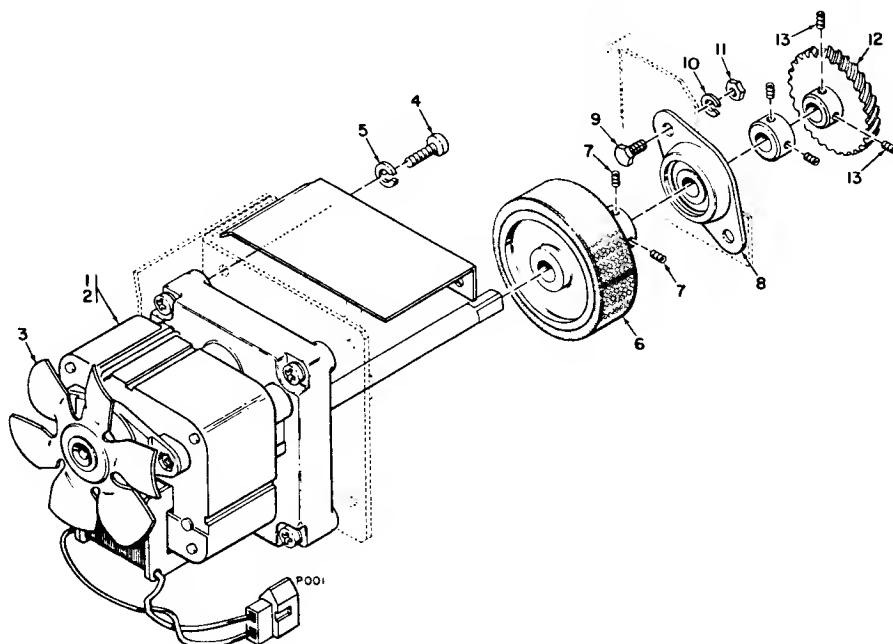

Figure 3-5A. KIT, DRIVE MOTOR ASSEMBLY, REMOVAL/REPLACEMENT
3.8 DRIVE MOTOR ASSEMBLY (Figure 3-5A)